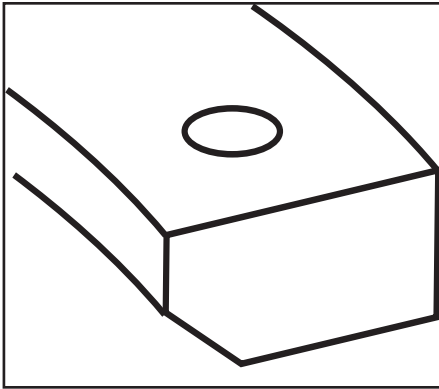

Figure 1
- B- Second compression ring has a darker, charcoal gray finish and slight bevel along inner surface. This ring has a dot. **See Figure 1.** Install in second or middle groove with dot up.
- 2- Plain cast ring usually goes in second groove. Plain cast type is usually a reverse torsion ring distinguished by an inside diameter bevel on one side of ring and a "dot" or oversized mark on other side. **See Figure 1** above. If two cast iron compression rings are supplied in a set, check to see if one is reverse torsion style ring with dot and bevel. Reverse torsion style ring always goes in second groove with dot up if present.
- 6- If ring has dot and inside diameter bevel, dot goes to top of piston. **See Figure 1** above.